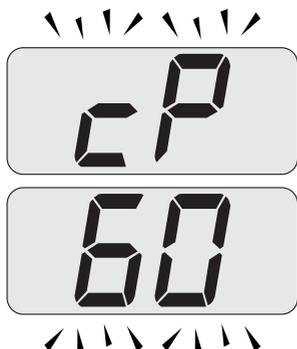

Fig. 9.21
- Press key 16 to vary the output in chimney sweep mode: when the LCD display displays the letters **cP** that alternate with the heating water temperature value (e.g. **60**), the "chimney sweep function" is at maximum (eventually range rated) output in heating mode (Fig. 9.21).